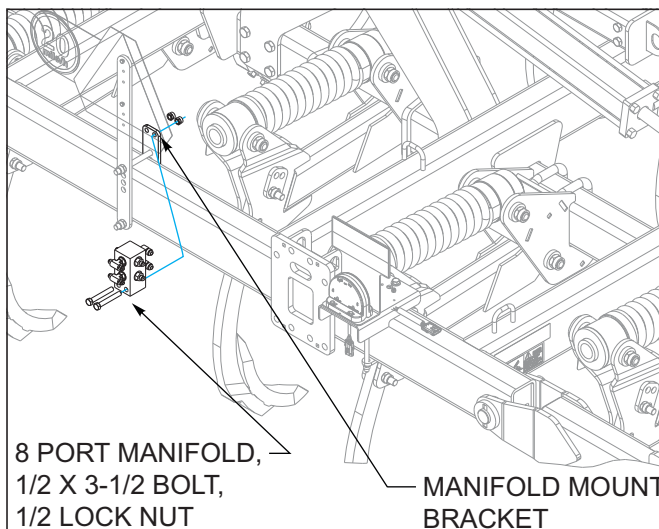

Figure 3-24: 8 Port Manifold Installation
8. On hydraulic 3BDT/Chopper Reel option, install the 8 port manifold to manifold mount with 1/2 x 4-1/2 bolts, 1/2 lock nuts as shown See Figures 3-24.